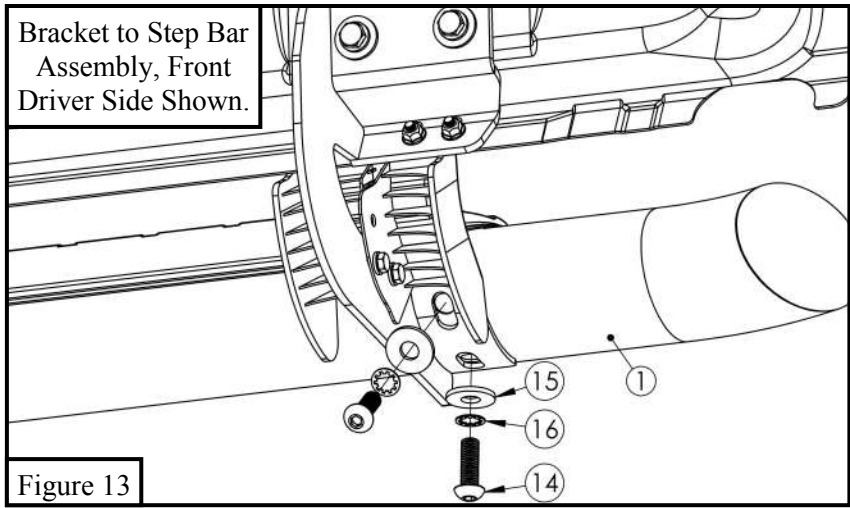

Figure 13
13. Attach step bars (Items 1 & 2) respectively to either side using (6) M10 button head bolts (Item 14), (6) M10 internal toothed lock washers (Item 16) & (6) M10 flat washers (Item 15). See **Figures 13 & 14**.